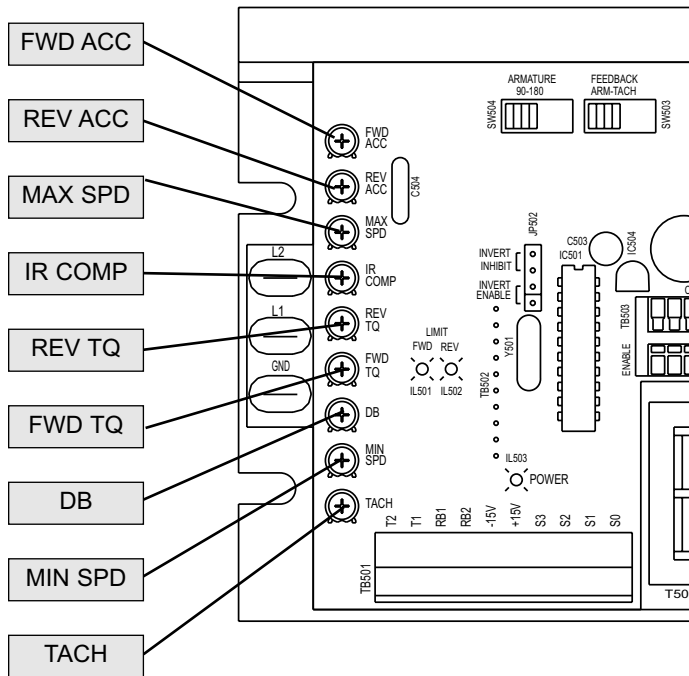

Figure 17. RG60U Calibration Trimpot Locations
All adjustments increase with clockwise rotation, (CW) and decrease with counterclockwise (CCW) rotation. Use a non-metallic screwdriver for calibration. Each trimpot is identified on the printed circuit board. See Figure 17, page 31 for RG60U calibration trimpot locations.